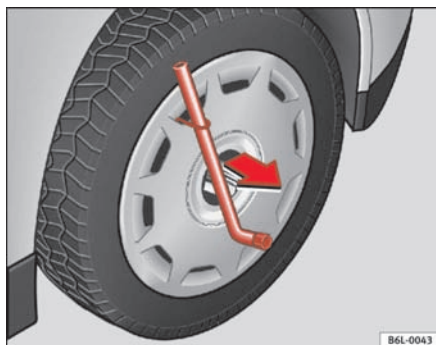

Fig. 121 Remove the complete hub cap
- Remove the wheel cover using the wire hook ⇒ **fig. 121**.